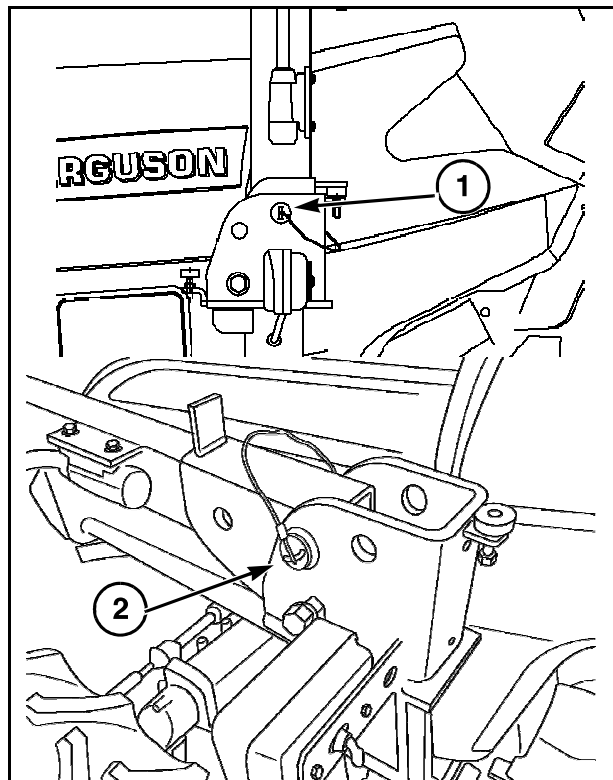

FIG. 115
FIG. 115: To fold the upper portion of the ROPS, remove the locking pins (1) and lower the upper portion. Fit the locking pins in holes (2) to secure the upper portion.